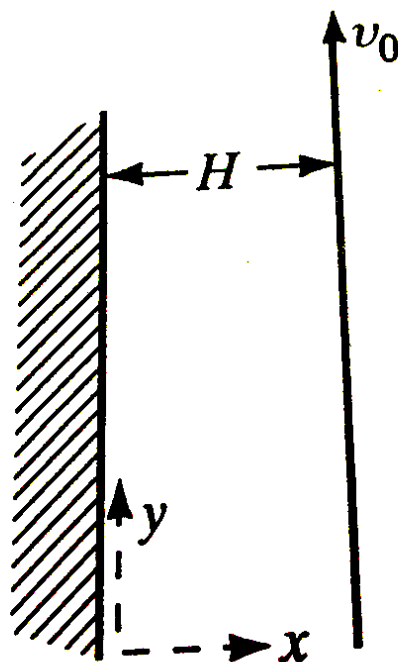

Figure 3 - Flow between vertical parallel plates
- (c). A Newtonian fluid is confined between two parallel and vertical plates as shown in Figure 3. The surface on the left is stationary and the other is moving vertically at a constant velocity v_0 . Assuming that the flow is laminar, solve for the velocity profile.